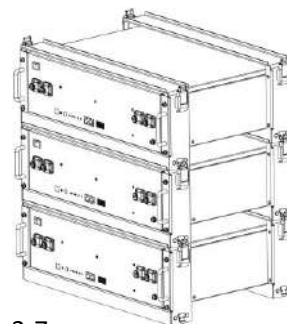

Figure3-7
4. Stack the required number of battery and bracket combinations as described above, and fasten the top and bottom buckles. Shown as Figure3-7.
The circuit breaker is installed between the battery module and the inverter, as shown in Figure 3-7: